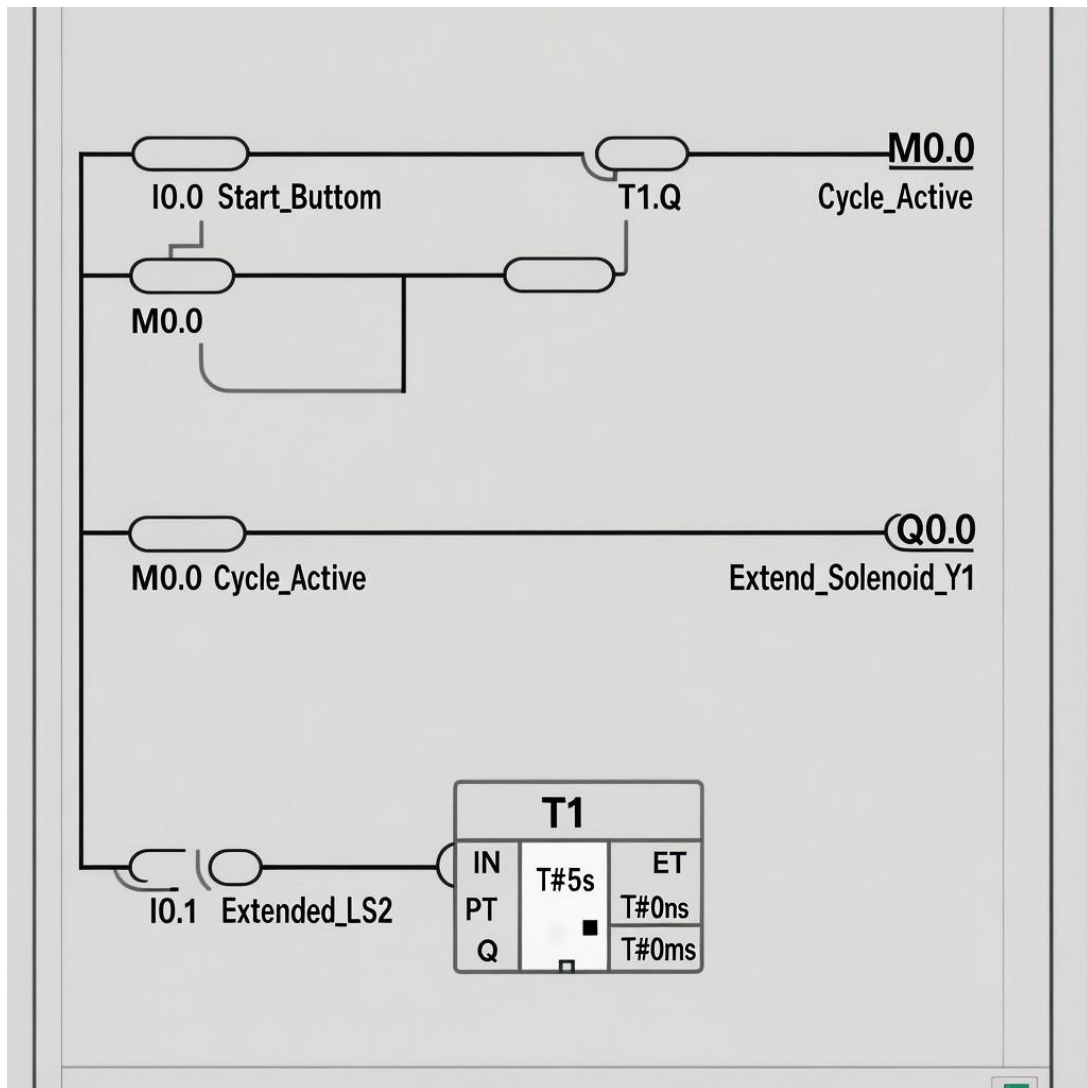

Figure 4.5: Ladder logic for a time-based sequence (A+ → 5s → A-).
The complete ladder logic for this sequence is shown in Figure 4.5.
2. **Program:** Write the ladder logic in TIA Portal to achieve the A+ → 5s → A- sequence as shown in Figure 4.5.